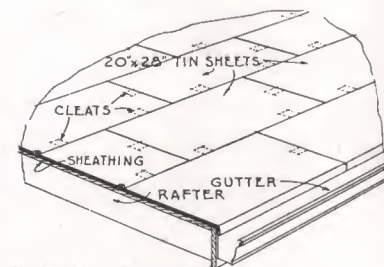

FIGURE 104
- (b) The tin for tin roofs and decks shown on the drawings is furnished in 20"x28" sheets. Before applying the tin, cover the entire roof with a well lapped layer of red rosin sheathing paper. Turn the edges of tin sheets under 1/2-inch. All seams to be well locked and well soaked with solder. Fasten sheets to sheathing by 1/2"x3" cleats cut from the tin, spaced 8 inches apart. Lock cleats into seams and fasten to roof with two 1-inch roofing nails. Do not drive any nails through the sheets. See Figure 104 as an illustration of the various operations in laying a tin roof.